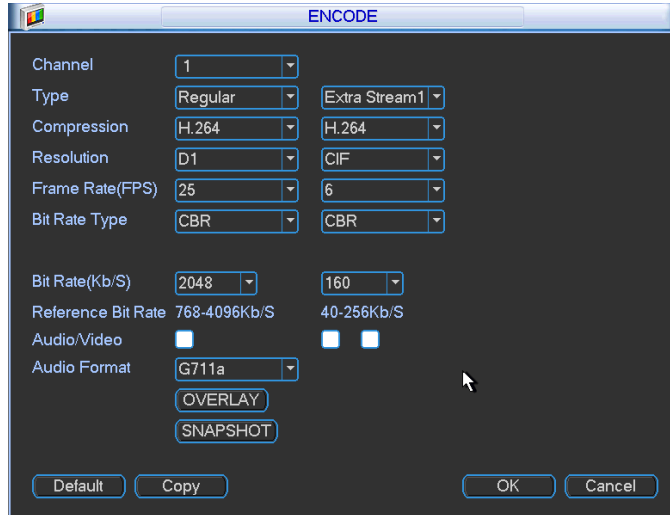
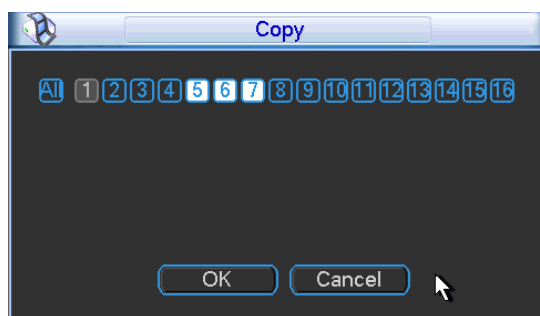
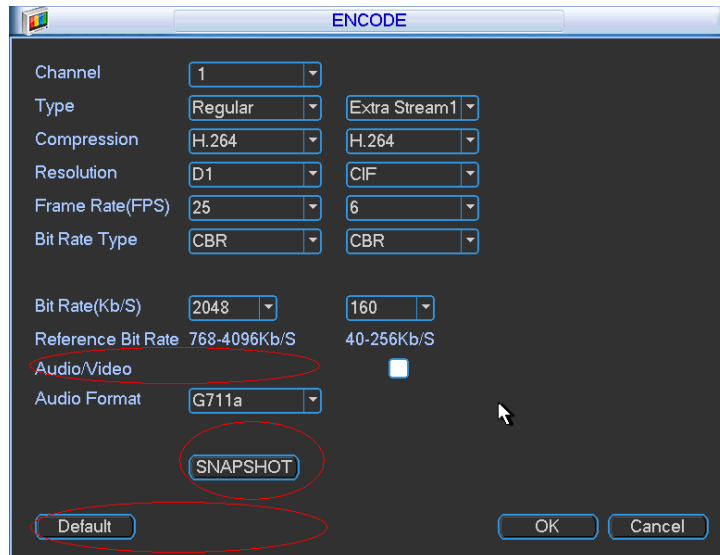

Figure 6-23
Figure 6-25
Figure 6-26
Encode setting includes the following items. See Figure 6-23.
- ✧ Copy: After you complete the setup, you can click Copy button to copy current setup to other channel(s). You can see an interface is shown as in Figure 6-25. You can see current channel number is grey. Please check the number to select the channel or you can check the
box ALL. Please click the OK button in Figure 6-25 and Figure 6-23 respectively to complete the setup. Please note, once you check the All box, you set same encode setup for all channels. Audio/video enable box, overlay button and the copy button is shield. See Figure 6-26.